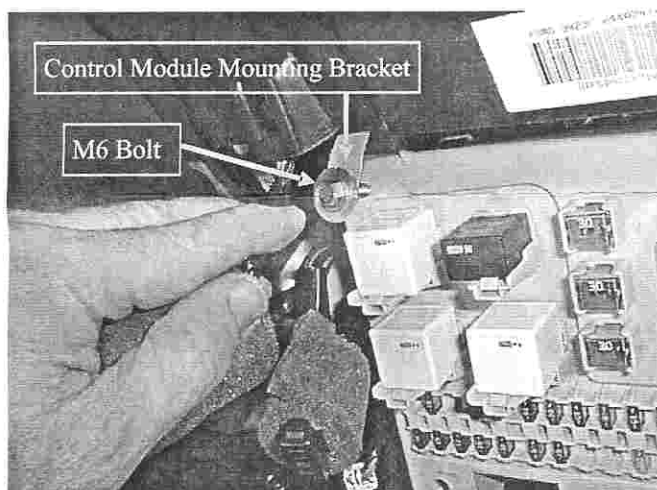

Fig 13. M6 bolt installed onto the control module mounting bracket.
21. Attach 2 pieces of foam tape (item 8) to reduce dash squeaks to the front and sides of the control module.
22. Attach the mounting bracket (item 2) to the control module with the mounting hole towards the connector. Don't push right up onto the plastic nipple on the back of the control module. This make fitment easier.
24. With the M6 bolt located in the mounting bracket hole refasten to secure the control module and the fuse panel. Retighten the other 3 M6 bolts. Refer Fig 13 & 14.